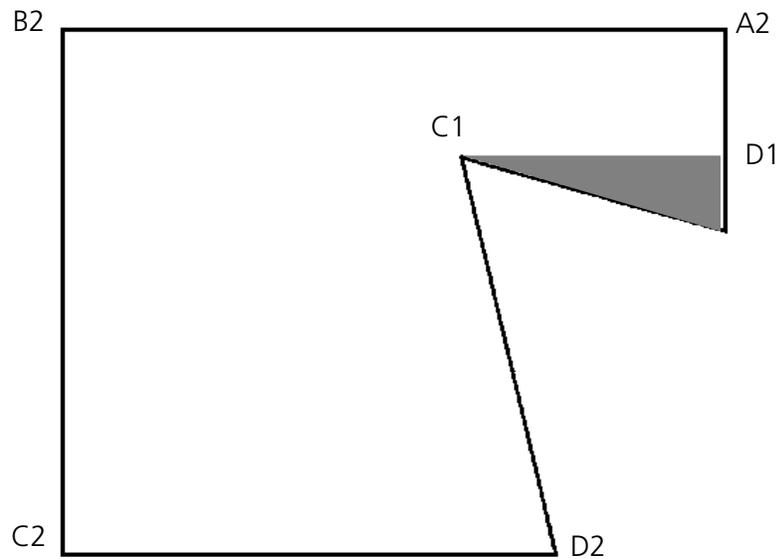

Figure 5-57
3. Enter a Mk1 at A2 in the illustration in Figure 5-57 and another Mk1 at B2 to define the first line of the fill.
6. Now enter a Mk2 at point B2 in the illustration in Figure 5-57 to identify the start of the first side of the second fill.